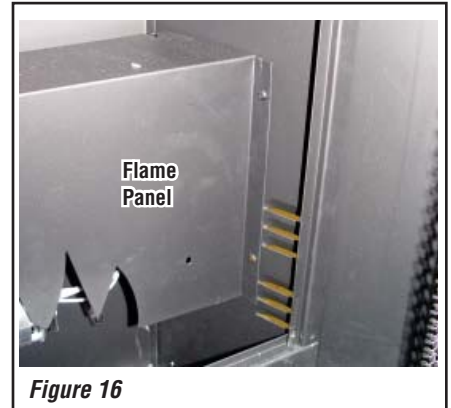

Figure 16
- ii. using a phillips screwdriver, remove the flame panel (see Figure 16).